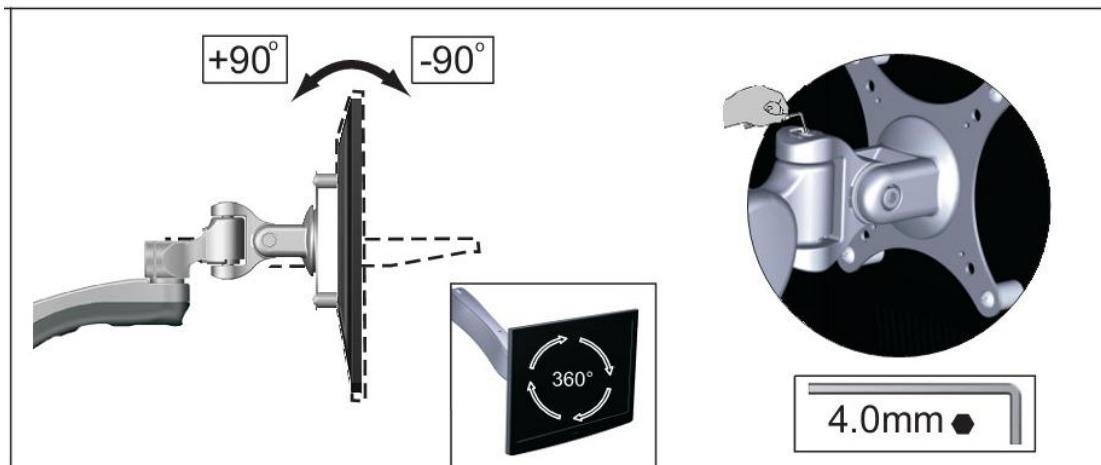

Figure 5-2
3. If the weight of the display monitor causes the Tilter Mount Bracket to tilt, it may be required to adjust the Tilter Mount Bracket joint to suit your display monitor tilt position of +/- 90 degrees. This can be done by using Hex Allen Wrench 4mm (9). To increase the resistance of the Tilter Mount Bracket to secure tilt position, adjust the M5x15mm Tension Hex Socket Cap Screw located around the Tilter Mount Bracket using the supplied 4mm Hex Allen Wrench (**See Figure 5-2**).